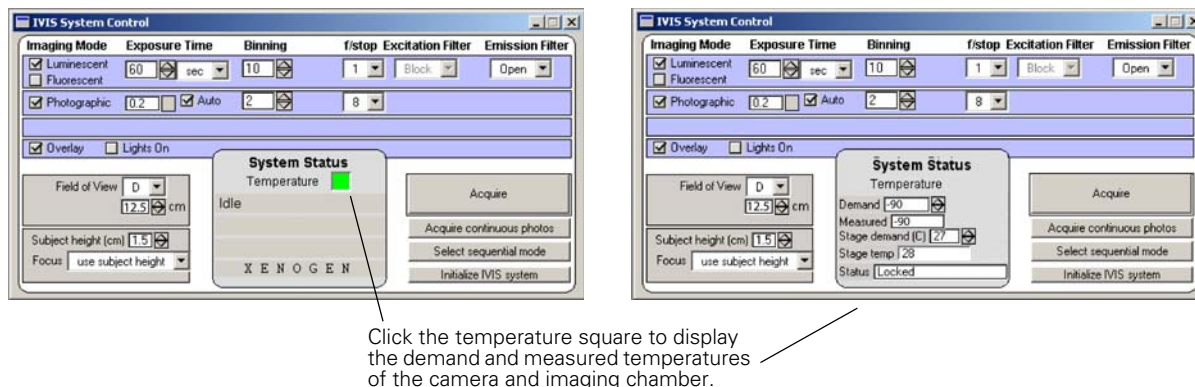

Figure 8-1 IVIS System Control panel in the Living Image software
- To check the temperature of the CCD, click the Temperature square (red or green) in the IVIS System Control panel of the Living Image software (Figure 8-1).